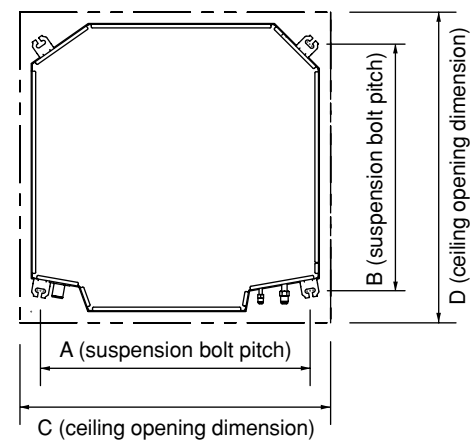

Fig. 3-49
- (2) Follow Fig. 3-49 and Table 3-3 to make the holes in the ceiling.